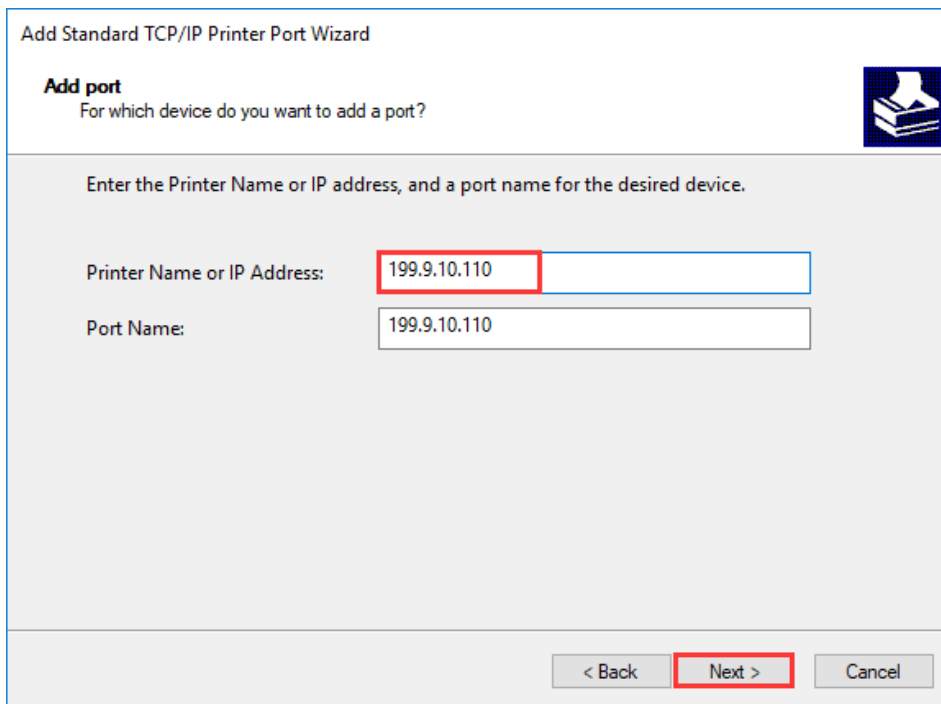

Figure 2-32 Add Port Screen
- 7. On the “Add Port” screen, enter the IP Address of the printer (Note: the IP address here must be consistent with the IP address of the printer that has been set, and the port name will be generated automatically), and then click “Next”, as shown in Figure 2-32.